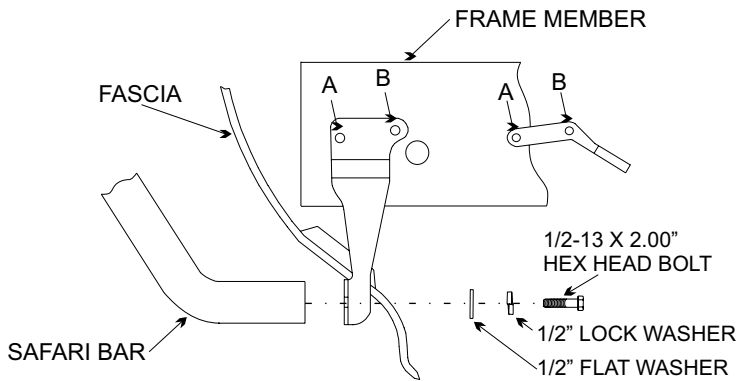

FIGURE 4
- STEP 5. Install Adapter Brackets using original fasteners. See Figure 4, 5 and 6.